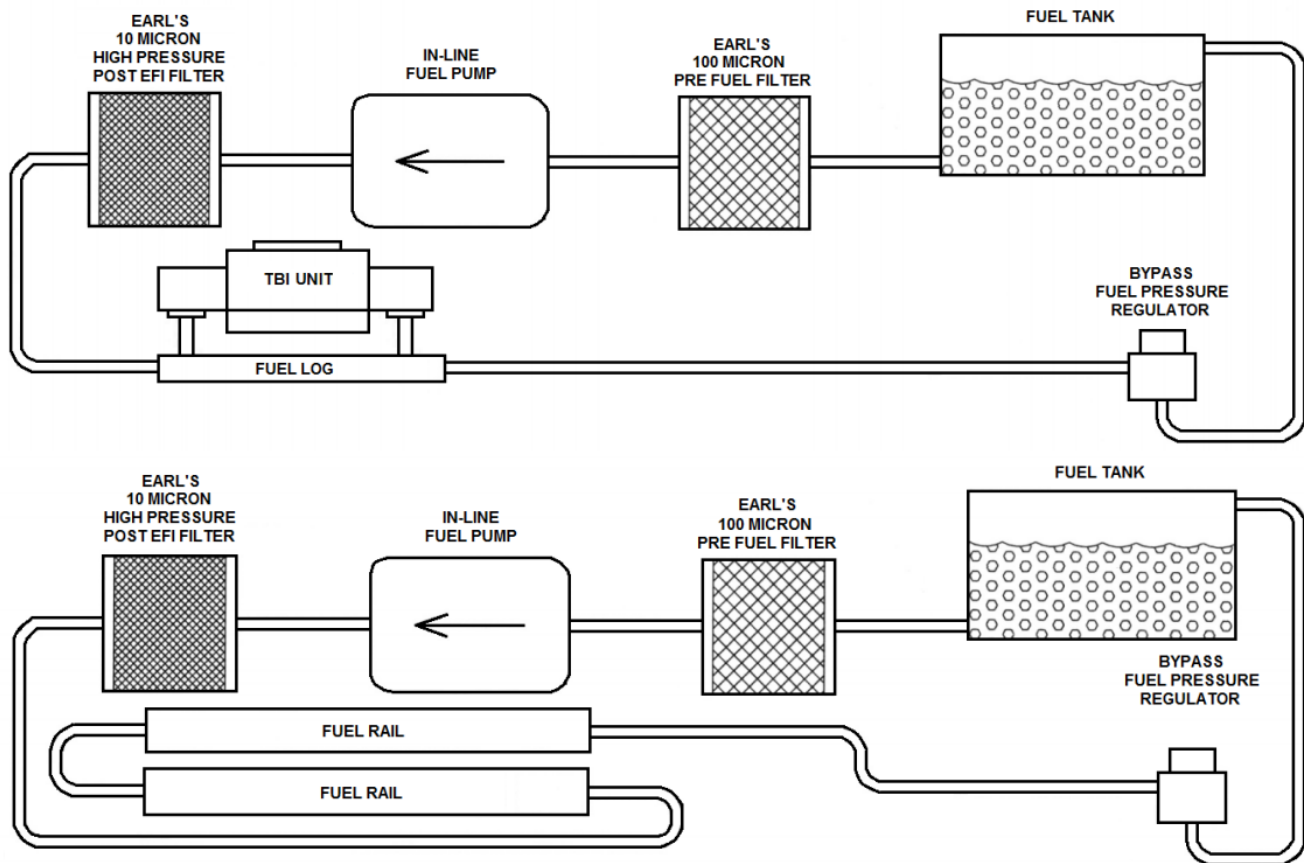

Figure 1
1. Use **Figure 1** below as a reference for the orientation and location of the fuel system components:
With the fuel pump, filters, and bulkhead fitting all in place. You are now ready to install the fuel lines. Some connections will use hose clamps (**Item 5**), while others will use AN hose ends (**Item 6**). These connections are noted in **Figures 1 & 3**. Be sure to read and thoroughly understand all steps, notes, and hose assembly instructions (**Section 1.5**) below before proceeding with the fuel line installation.